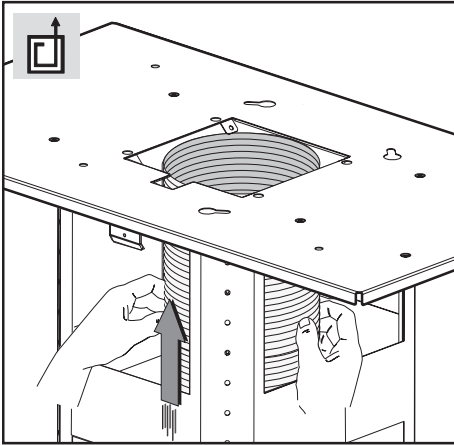

Fig.9
- **Suction version:** fix the flexible pipe to the prepared air evacuation hole (fig. 9).